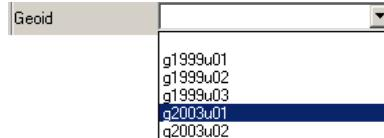

Figure 3-98. Select Geoid Model
- Select a geoid model (Figure 3-98).